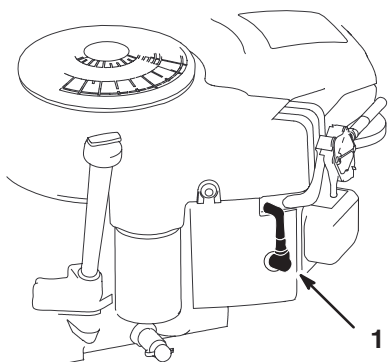

Figure 23
2. Pull the wire off of the spark plug (Fig. 23 and 24).
3. Push the wire onto the spark plug (Fig. 23).